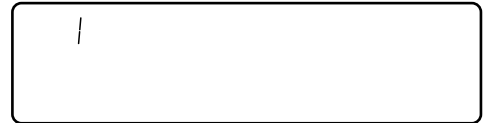

Figure 29
(2) Press key. "1" or "0" will be displayed. (Figure 29)